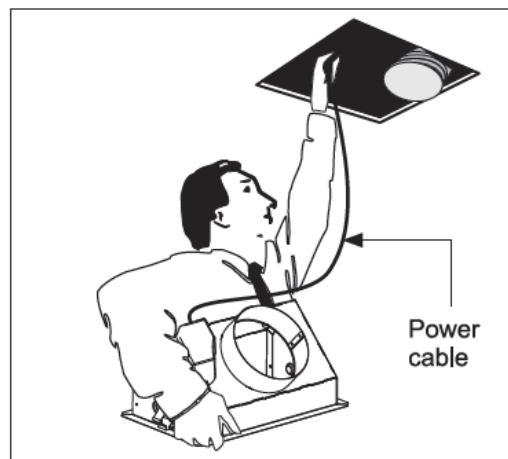

Fig. 19
3. Feed ducting and blower through hole in the ceiling, directing it towards the installation position of the outlet grille. Position the lower so that the short length of ducting and power supply cable (models 34601) is sitting next to the hole as per Fig. 19.